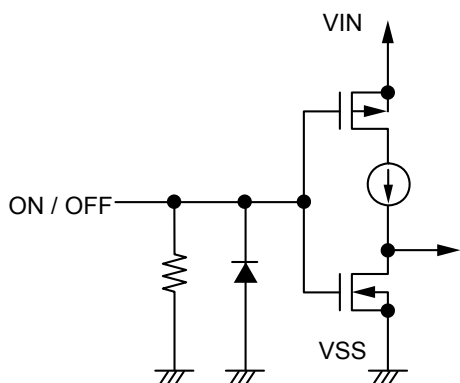
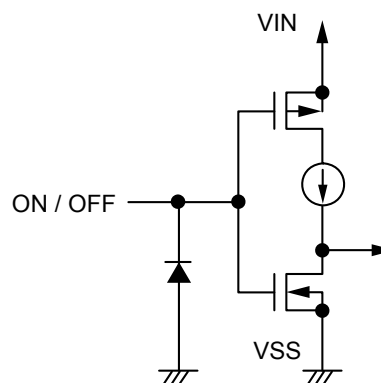

Figure 30 S-13A1 Series A / C type
Figure 31 S-13A1 Series B / D type
When the ON / OFF pin is set to OFF level, the entire internal circuit stops operating, and the built-in P-channel MOS FET output transistor between the VIN pin and the VOUT pin is turned off, reducing current consumption significantly. Note that the current consumption increases when a voltage of 0.3 V to $V_{IN} - 0.3$ V is applied to the ON / OFF pin. The ON / OFF pin is configured as shown in **Figure 30** and **Figure 31**.
*1. Note that the IC's current consumption increases as much as current flows into the pull-down resistor of 2.5 M Ω typ. when the ON / OFF pin is connected to the VIN pin and the S-13A1 Series A / C type is operating (refer to **Figure 30**).